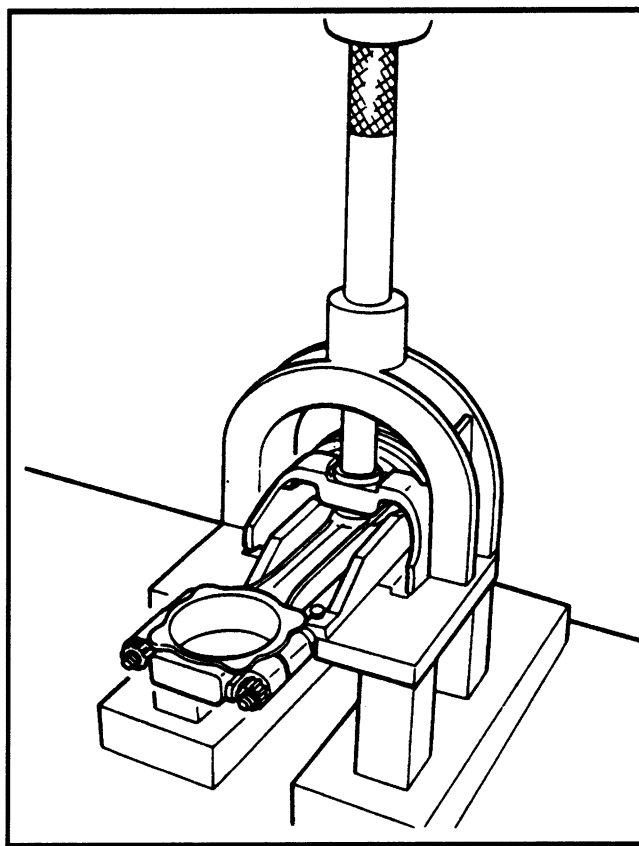

FIGURE 24. PISTON PIN REMOVAL
1. Remove the piston rings from the pistons. Use a press to remove the piston pins from the piston. See **FIGURE 24.**